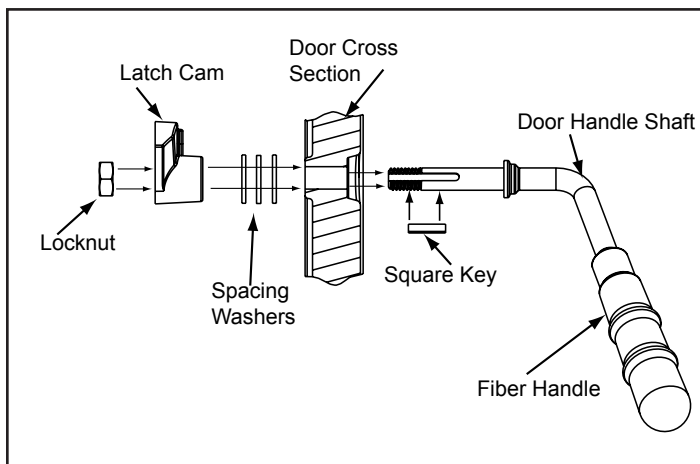

Figure 9.1
1. The grille on the blower access assembly is hinged. Swing the grille downward to expose the 2 screws. **Figure 9.1 on page 9.**
3. Install additional washer(s) as shown in **Figure 9.1**.
7. Install handle turning in a counter-clockwise motion to desired location on door handle rod. **Figure 9.1**